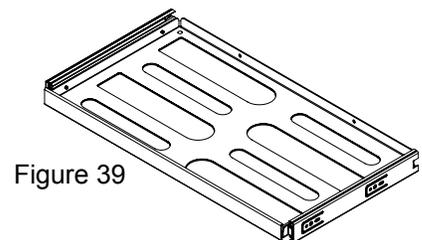

Figure 39
- (1) Four bottle rollout wine shelf with glass and vibration dampening mat. (See figure 39).